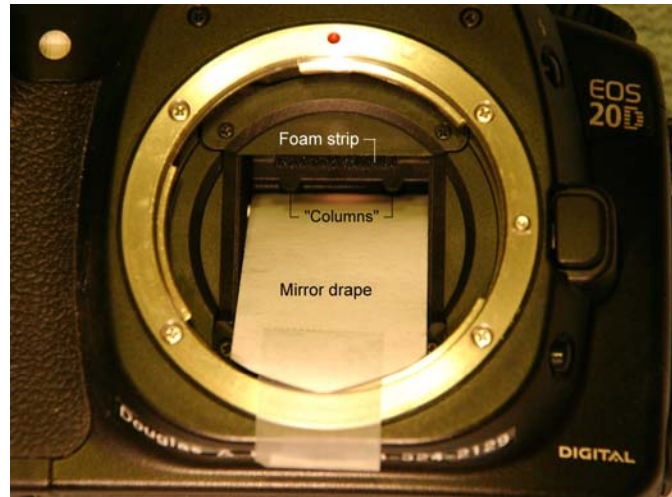
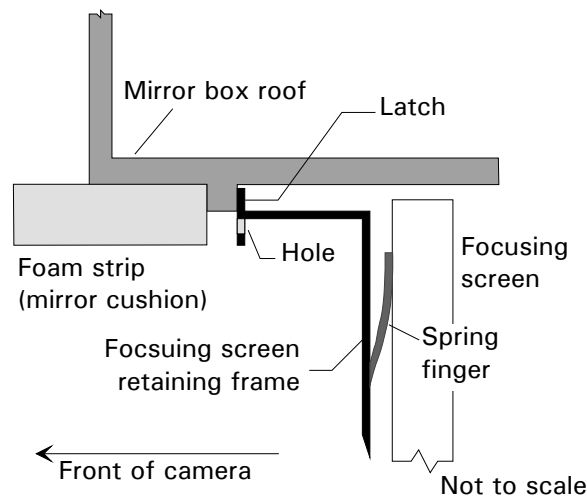

Figure 2. Mirror drape
Figure 4. Retaining frame and latch—section from side
15. It is desirable to cover the reflex mirror with a paper “drape” to protect the mirror against fingerprints and also against the possibility of scratching by the various parts (or tools!) that may fall on it during the process. Cut a strip of bond paper the width of the reflex mirror (1-1/8”, slightly under 29 mm) and about 2-1/8” (54 mm) inches long. Cut one end to a curve, approximately the radius of the inside of the shiny mount ring. (See figure 2.) Place the strip on the mirror, with the far end lying at the base of the two “columns” and use a
Figure 4 shows the way the frame is latched in place. The foam strip can be seen in figure 2.